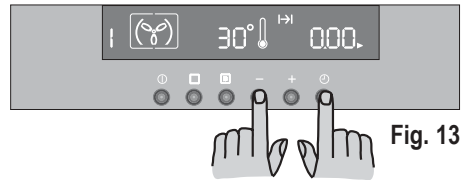

Fig. 13
- press button “-” to decrease the time until “0.00” is displayed (Fig. 13).